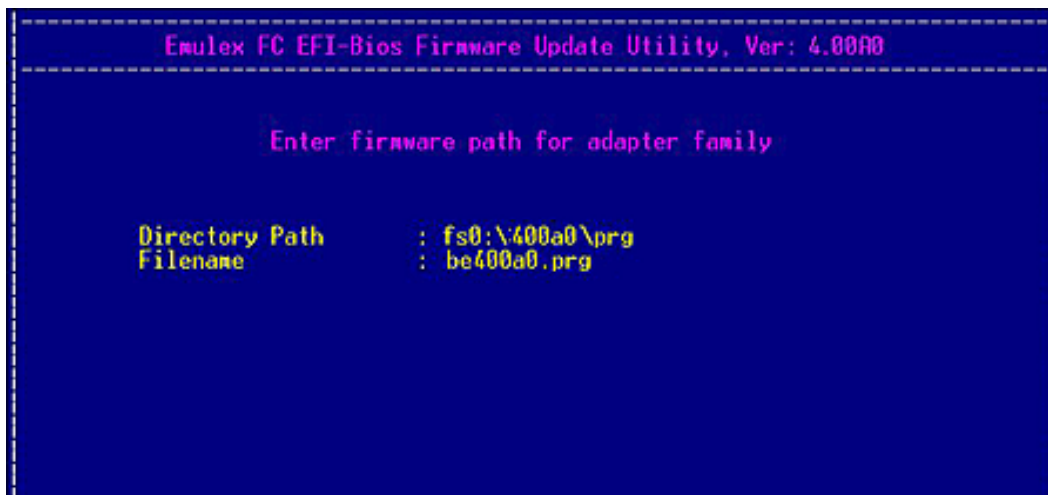

Figure 6-43 Batch Mode Update path Screen
- Press <P> to update the firmware or boot code. You are prompted for a directory path and file name for the firmware or boot code image file (Figure 6-43). Enter the path and file name, and then press <Enter>.